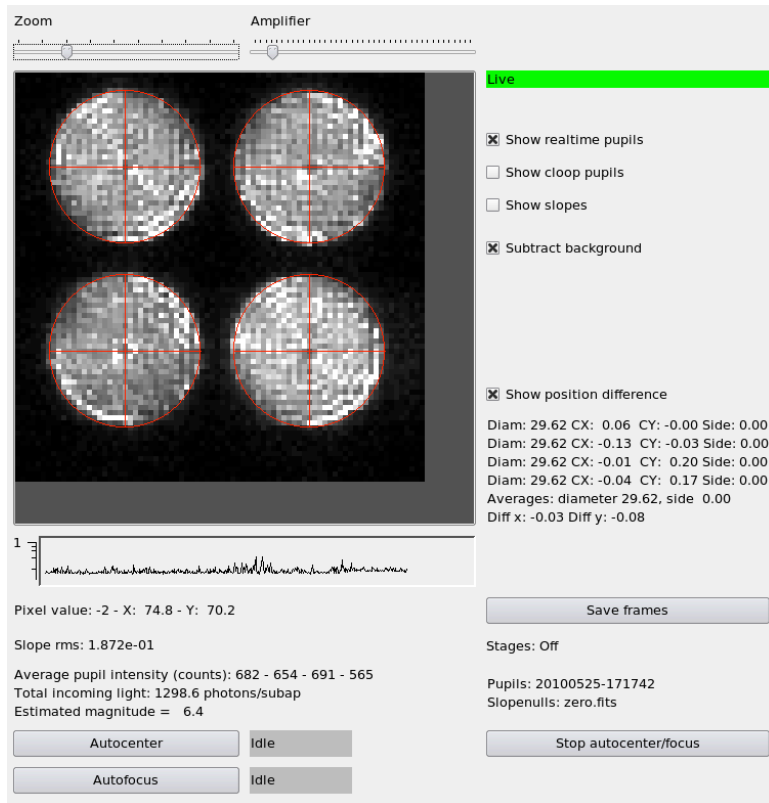

Figure 6 CCD39 GUI after cube angle fine-tuning and in closed loop
6. Close Loop	Press StartAO in the “AOS Commands” GUI. See Figure 6.